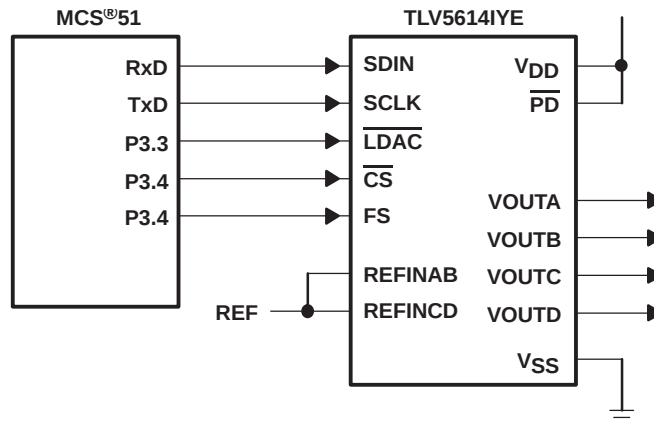

Figure 19. TLV5614IYE Interfaced With MCS®51
Figure 19 shows an example of how to connect the TLV5614IYE to an MCS®51 Microcontroller. The serial DAC input data and external control signals are sent via I/O Port 3 of the controller. The serial data is sent on the RxD line, with the serial clock output on the TxD line. Port 3 bits 3, 4, and 5 are configured as outputs to provide the DAC latch update ( $\overline{\text{LDAC}}$ ), chip select ( $\overline{\text{CS}}$ ) and frame sync (FS) signals for the TLV5614IYE. The active low power down pin ( $\overline{\text{PD}}$ ) of the TLV5614IYE is pulled high to ensure that the DACs are enabled.